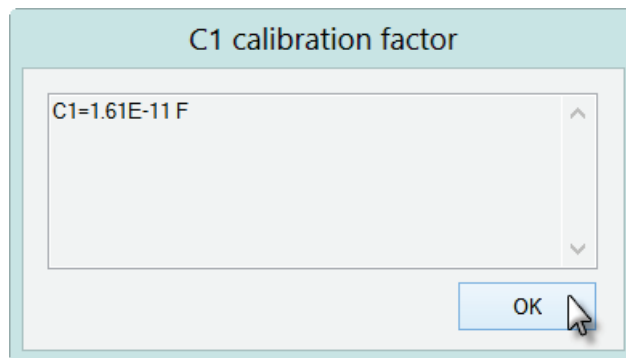

Figure 1.108 – The experimentally determined value of C1 is reported in a Message box at the end of the measurement
7. The data is automatically fitted and the results of the fitting are reported in a Message box at the end of the measurement (see Figure 1.108).